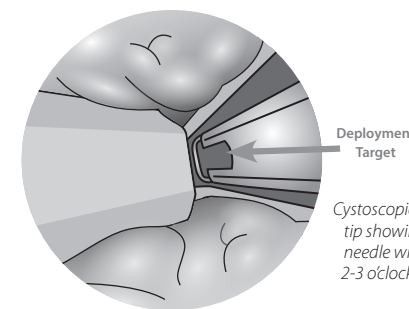

Figure 4
2.8 Position the UroLift Delivery Device such that the Deployment Target (**Figure 4**) is against the target prostatic lobe in the lateral direction.